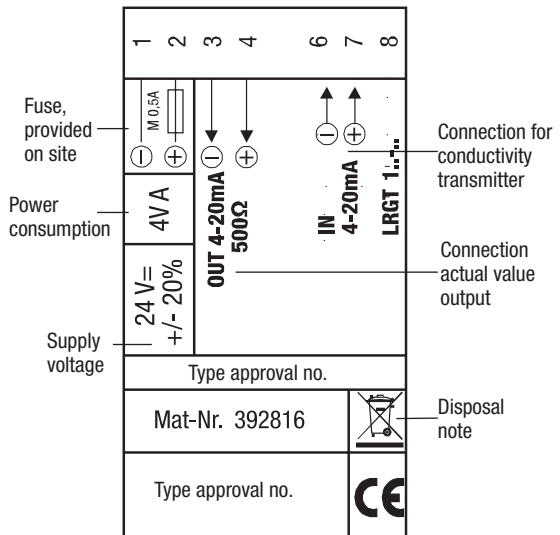

Fig. 1
The conductivity controller LRR 1-50, LRR 1-51 is clipped onto the support rail type TH 35, EN 60715 in the control cabinet. Fig. 1 ④